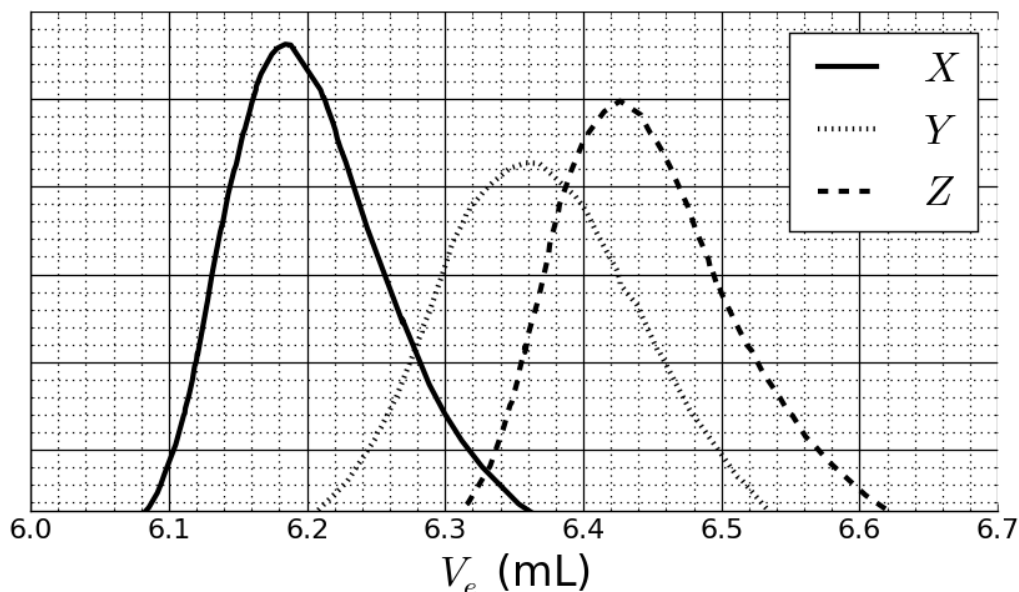

Fig. 2 – SEC chromatograms of **3a**, **3b** and **3c** as a function of the elution volume, V_e .
This reaction of **1** with **2** yielded copolymers: **3a** after 20 h, **3b** after 25 h and **3c** after 30 h of reaction at 40 °C. Results of size-exclusion chromatography (SEC) experiments for each of the above are presented in **Fig. 2**.
6. **Match** the signals in Fig. 2 with the copolymers **3a**, **3b** and **3c**.
7. Based on the SEC curves in Fig. 2 and 3: